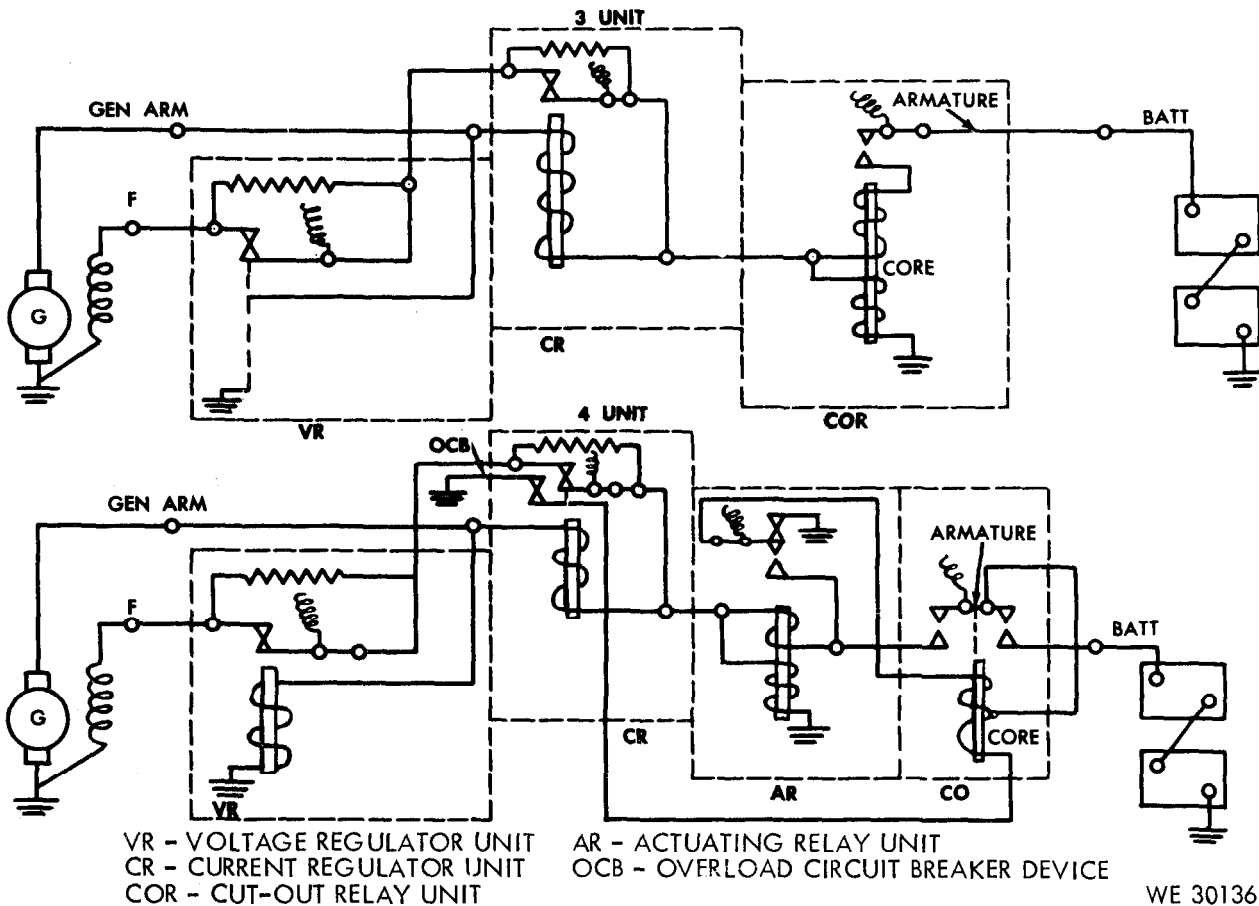
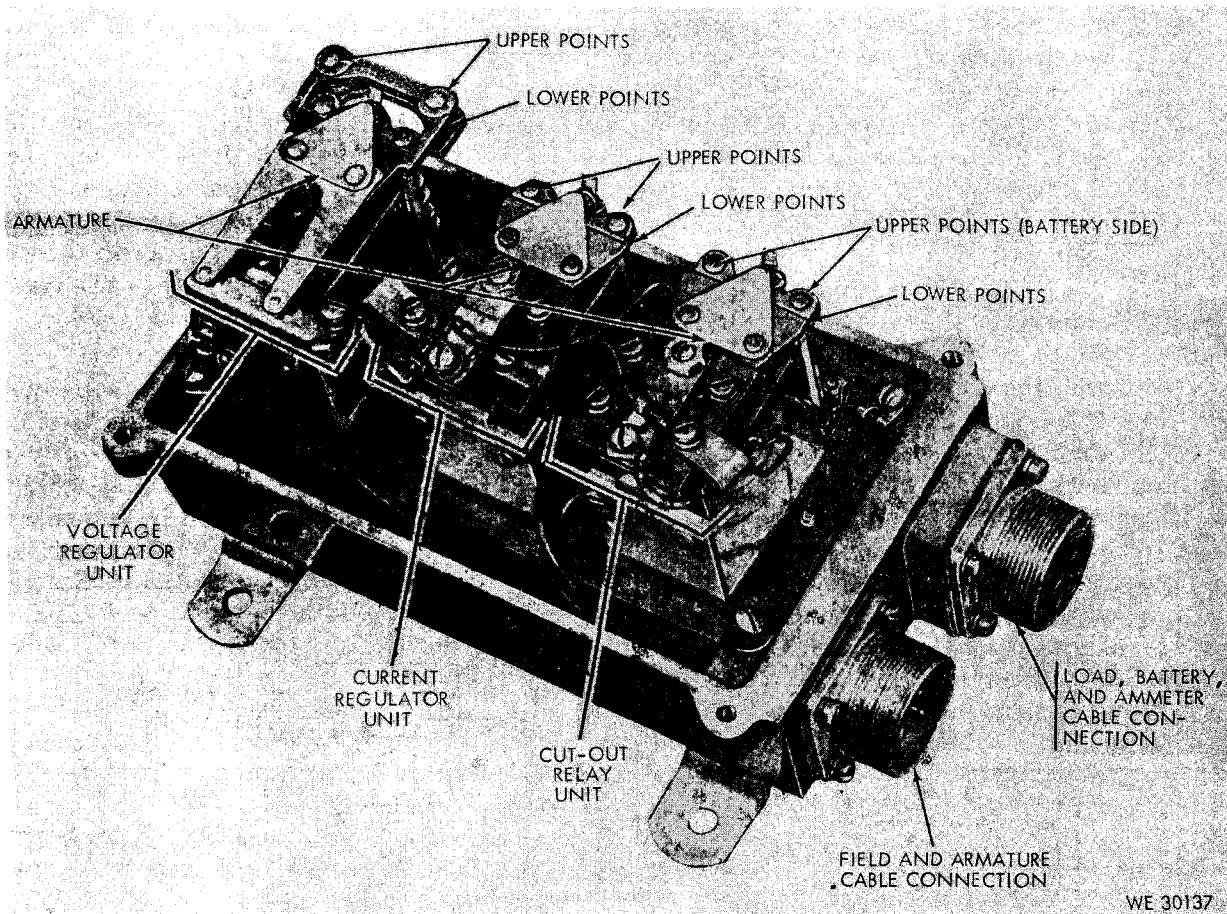

Figure 33. Wiring diagram for 25-ampere 3 control and 4 control unit vibrating contact type generator regulator.
Figure 34. 25-ampere 3 control unit vibrating contact type (Delco-Remy 1118656) generator regulator - cover removed.
The Delco Products (Delco-Remy) 25-ampere 3-unit vibrating contact type (number 1118656) generator regulator (fig. 33) is comprised of three control units mounted as an assembly, which are the cut-out relay, voltage regulator, and current regulator. Each unit has a set of contact points and an energizing coil for operating the points. The units function individually and can be adjusted at a predetermined setting to maintain control of the voltage and the flow of current within a generator circuitry. When the three units of the regulator are adjusted to a specified setting, the output from the generator to the unit under charge is regulated protecting the unit within its electrical storage limitations, but also maintaining the unit at its maximum electrical capacity. It also regulates the output of the generator preventing a burned-out generator. Refer to TM 9-8627 for complete descriptive information.
the 25-ampere generator regulator (figs. 33 and 34) and whether setting adjustments are required to the units so they perform in accordance with manufacturer specifications. (See note below (par. b(6)) for testing Auto-Lite 25-ampere generator regulator.)
current regulator unit (fig. 33 and 34) of the generator regulator goes into action.
- (a) Remove the cover from the generator regulator (fig. 31) as shown in figure 34 and plug a test lead number 38425 (fig. 74) in the top of the negative test indicator binding post (24) and connect the other end to the ground (GND) binding post (10-E, fig. 15). Plug another test lead number 38425 in the top of the positive test indicator binding post (23) and clip the other end on the armature (upper points (battery side)) of the cut-out relay unit (figs. 33 or 34).
- (b) Start the varidrive assembly as specified in c(7) above and turn the speed control handle (22) slowly clockwise until 1,700 rpm are indicated on the tachometer indicator meter (3).
- (c) Turn the 40-ohm field current rheostat (16) clockwise slowly, until the points of the cut-out relay unit close (figs. 33 or 34) which will be indicated when the test indicator lamp (25) lights up. Observe the voltage reading on the dc voltmeter (4) when the points close. The reading should be approximately 26 volts.
- (d) Stop the varidrive assembly by depressing the "STOP" button (21-C) on the drive control (21) and remove the test leads, (a) above.
- (a) Place the 40-ohm 30-ampere maximum rheo-reg switch in the "REG" position and connect a jumper cable across the upper and lower points of the voltage regulator unit (fig. 34).
- (b) Start the varidrive assembly as prescribed in c(7) above. Turn the speed control handle (22) slowly clockwise until 3,000 rpm are indicated on the tachometer indicator meter (3). The voltage reading on the dc voltmeter (4) should be approximately 28.2 volts.
- (c) Stop the varidrive assembly by depressing the "STOP" button (21-C) on the drive control (21) and remove the jumper cable, (a) above.
- (d) If the voltage reading is not as specified in (b) above, adjustment of the voltage regulator unit will be required. Refer to manufacturer's literature or pertinent publication (s) covering the generator regulator for this procedure. Refer to paragraph 102 for additional instructions for setting the voltage regulator unit. Continue with tests in (5) below.
- (a) Place both the battery switch (20) and the starter test load disconnect switch (10) in the "ON" position.
- (b) Start the varidrive assembly as prescribed in c(7) above and turn the speed control handle (22) slowly clockwise until 3,000 rpm are indicated on the tachometer indicator meter (3).
- (c) Place a load of approximately 25-30 amperes in the circuit by placing the 25-12.5 fixed load switch (12-C) and the 0-25 0-12.5 load switch (12-D) in the "ON" position and then turn the variable load 0-25 0-12.5 ampere rheostat (13) clockwise about a 1/4 turn. The ampere reading on the load dc ammeter (1) should be approximately 25 amperes.
- (d) If the ampere reading is not as specified in (c) above, adjustment of the current regulator unit will be required. Stop the varidrive assembly and place the starter test load disconnect switch (10) in the "OFF" position. Refer to manufacturer's literature or pertinent publication(s) covering the generator regulator for adjustment procedures. After adjustments are made continue with tests in (6) below.
- (a) Place the cover on the generator regulator but do not secure and start the varidrive assembly as prescribed in c(7) above. With the control units set as indicated in (e) above, make the following settings of the controls and switches on the test stand:
The function of the Delco Products (Delco-Remy) 25-ampere 4-unit vibrating contact type (number 1118606) generator regulator (figs. 33 and 35) is similar to that of the 3-unit type (figs. 33 and 34) described in paragraph 113, except its construction includes the addition of an actuating relay unit and an overload circuit breaker device. The primary purpose of the actuating relay unit is to prevent the points of the circuit breaker relay unit (cutout relay unit) from opening from shock or vibration which assures better operation of the unit. This is accomplished by the manner in which the windings are connected between the two units. The overload circuit breaker device is attached to the front of the current regulator unit. Its function is to open the contact points of the circuit breaker relay unit (cut-out relay) should they fail to open normally, thus preventing a high reverse current to the generator. Refer to TM 9-8627 for complete descriptive information.
a. Purpose. This test is performed to indicate the functioning of the 4-control units of the 25-ampere generator regulator (figs. 33 and 35) and whether setting adjustments are required to adjust the units so they perform in accordance with manufacturer's specifications.
- (a) Remove the cover from the generator regulator (fig. 31) as shown in figure 35 and plug a test lead number 38425 (fig. 74) in the top of the negative test indicator binding post (24) and connect the other end to the ground (GND) binding post (10-E, fig. 15). Plug another test lead number 38425 in the top of the positive test indicator binding post (23) and clip the other end on the armature (upper points (battery side)) of the circuit breaker relay unit (cut-out relay) (figs. 33 and 35).
- (b) Start the varidrive assembly and check the rotation of the generator as prescribed in paragraph 114c(7) and (8). Turn the control handle (22) slowly clockwise until 1,700 rpm are indicated on the tachometer meter (3).
- (c) Hold the contact points of the actuating relay unit (fig. 33 or 35) closed, using an insulated screwdriver. Turn the 40-ohm field current rheostat (16) clockwise slowly, until the points of the circuit breaker relay unit (cut-out relay) close (fig. 33 or 35) which will be indicated when the test indicator lamp (25) lights up. Observe the voltage reading on the dc voltmeter (4) when the points close. The reading should be between 14 and 17 volts.
- (e) Start the varidrive assembly and check the sealing voltage (voltage at which the armature of the relay seals (touches) against the core of the relay (figs. 33 or 35) by repeating the procedures in (c) above until the points of the circuit breaker relay unit (cut-out relay) (figs. 33 or 35) close, then continue to turn the 40-ohm field current rheostat (16) clockwise until the armature seals to the core. Satisfactory sealing range is 2 to 5 volts above closing voltage specified in (c) above.
- (f) Release the contact points of the actuating relay unit, (c) above, and turn the 40-ohm field current rheostat (16) fully counterclockwise. Stop the varidrive assembly and adjust the armature of the circuit breaker relay (figs. 33 or 35), if necessary, following instruction in manufacturer's literature or pertinent publication (s) covering the generator regulator for this procedure. Continue with tests in (2) below.
- (a) Start the varidrive assembly as prescribed in 114c(7) and (8) and turn the 40-ohm field current rheostat (16) clockwise until the points of the actuating relay unit close (figs. 33 or 35) which will be indicated when the test indicator lamp (25) lights-up. Observe the voltage reading on the dc voltmeter (4) when the points close. The reading should be approximately 26 volts.
- (b) Turn the 40-ohm field current rheostat (16) fully counterclockwise and stop the varidrive assembly by depressing the "STOP" button (21-C) on the drive control (21) and remove the test leads (1) (a) above.
(b) Hold the contact points of the actuating relay unit (figs. 33 or 35) closed using an insulated screwdriver. Turn the speed control handle (22) counterclockwise, reducing the rpm of the generator until the
points of both the overload circuit breaker device and circuit breaker relay unit (cut-out relay) (figs. 33 or 35) are open. Observe the ampere reading on the load dc ammeter (1) when both sets of points are open. The ampere reading should be at approximately 32 amperes.